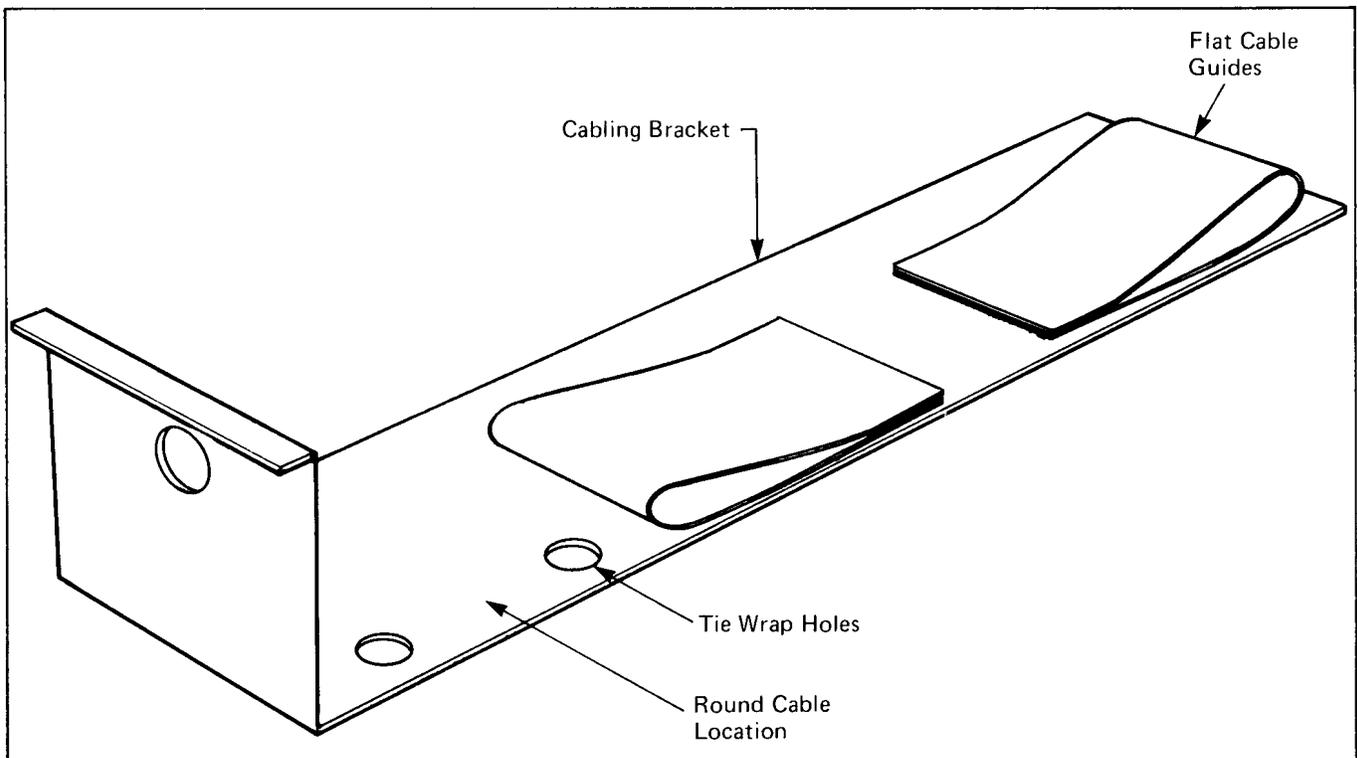

Fig. 7 -- Cabling Bracket -- Bay Frame
2.06 The electronics compartment has offset-hinged bay frames, which permit access to the back of the shelves for installation and servicing (Fig. 5). The bay frames are 19-inch wide U-channel construction and can accommodate the equipment shelves in the order shown in Fig. 6. Each frame is supported by a roller bearing in combination with a bearing plate in the floor of the cabinet. Cable guides are provided on the back of each frame for the Ansley-type flat cabling or the NE-808A type vf cabling (Fig. 7). In addition, the equipment is grounded through a No. 6 tinned-copper wire which runs vertically up the back of each bay frame. Oval tinned-copper braid is soldered to the ground wire to provide the necessary flexibility for hinging the frame